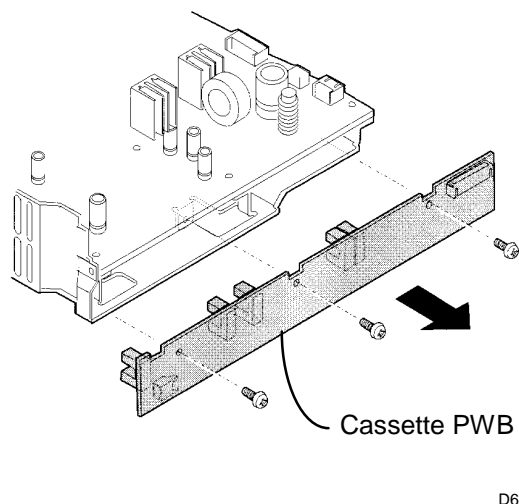

Figure 1. Removing the Cassette PWB
2. (Figure 1): Remove screws and remove cassette PWB.